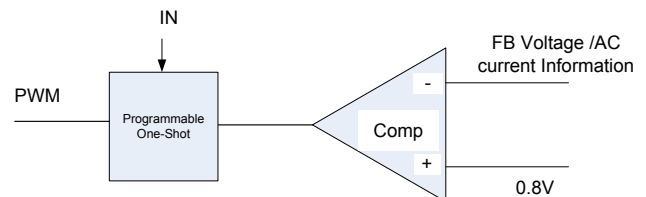

Figure 2. Simplified Control Schematic of AOZ2261AQI-15
The simplified control schematic is shown in Figure 2. The high-side switch on-time is determined solely by a one-shot whose pulse width can be programmed by one external resistor and is inversely proportional to input voltage (IN). The one-shot is triggered when the internal 0.8V is higher than the combined information of FB voltage and the AC current information of inductor, which is processed and obtained through the sensed lower-side MOSFET current once it turns-on. The added AC current information can help the stability of constant-on time control even with pure ceramic output capacitors, which have very low ESR. The AC current information has no DC offset, which does not cause offset with output load change, which is fundamentally different from other V^2 constant-on time control schemes.